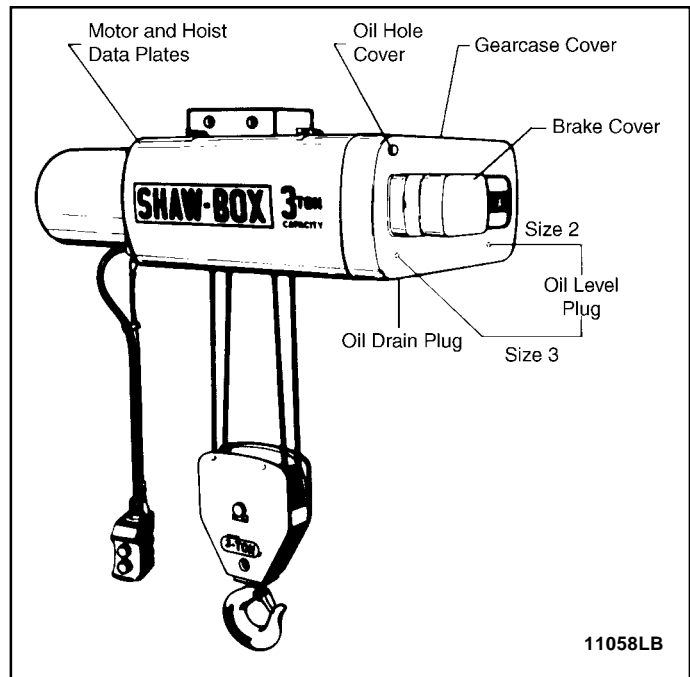

Figure 4-1. View of Hoist Showing Location of Name Plates and Oil Plugs
a. Check Oil Level. (Figure 4-1) The gearcase has been filled with oil to proper level and grease points for upper and lower sheaves (when so equipped) have been lubricated at the factory. However, this should be rechecked before operating hoist.
4-2. CHANGE GEARCASE OIL. (Figure 4-1)